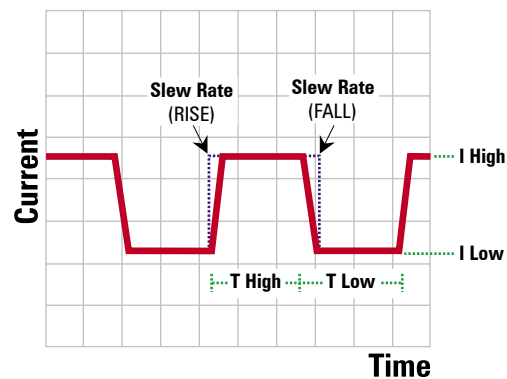

Fig. 2. Dynamic mode settings for SL-series electronic loads.
The power supply is set in voltage mode (CV) at a voltage slightly higher ($<5\%$ typical) than the expected drop across the diode string at peak current. The electronic load, in this case the Sorensen SL Series, is set in "dynamic mode" to switch from zero/low current to the source current required for the application. SL Series electronic loads have controllable slew rates to provide square (10-50 μs rise time) or sawtooth waveforms. The duty cycle is adjusted by setting the low current timing and high current timing, as shown in Fig. 2.